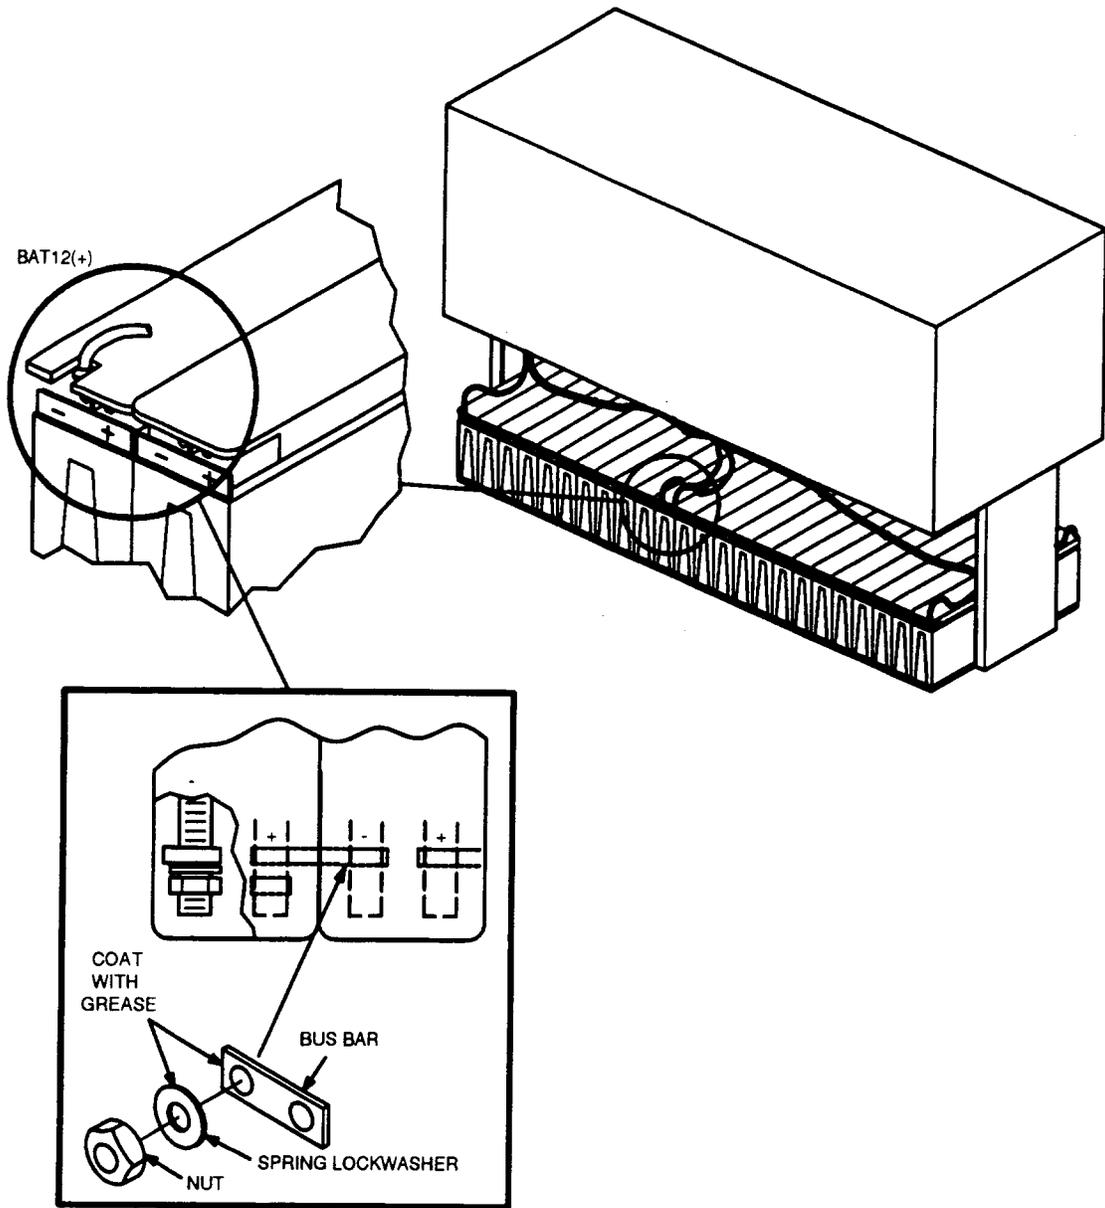

Figure 2 — Battery String Connections for Lineage 2000 VR Series Batteries
9. Coat inter-battery bus bars with NO-OXid grease and install on the batteries as shown in Figure 2. Install 1/4 inch lock washer and nut on battery post. Using insulated torque wrench with the socket, tighten nut to 55 inch-pounds torque. Repeat for each battery post until all 12 batteries are connected together.
10. Cut a notch in the cover of the battery No. 1 (above "-" battery post) and battery No. 12 (above "+" battery post) (see Figure 2). This is required to install the battery string cable.
11. Connect the battery string cable to battery No. 1 by terminating the lug marked **BAT 1 (-)** to the "-" (negative) battery post of the first battery in the string (Figure 2). Connect the battery string cable to battery No. 12 by terminating the lug marked **BAT 12 (+)** to the "+" (positive) battery post of the 12th battery as shown in Figure 2. Install the lock washer and nut on the battery posts. Use insulated torque wrench to tighten the nuts to 55 inch-pounds torque.